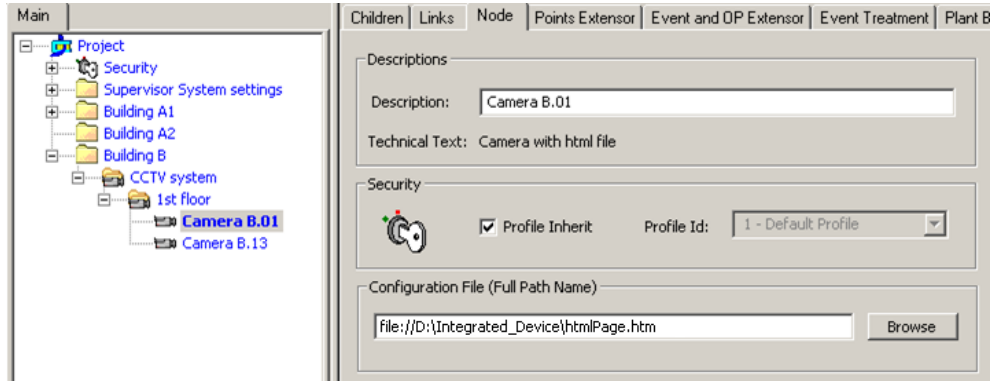

Fig 35 Configuring the web-based viewer
2. In case HTML-based viewer (Fig 35), enter the file path of the local HTML page (note that HTTP protocol is not supported)